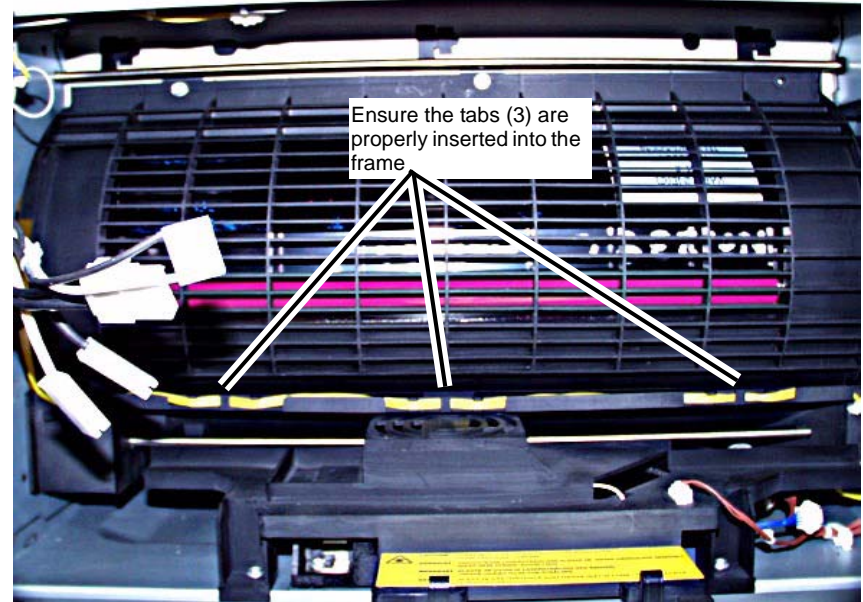

Figure 6 Inserting the Rotary Cover tabs
When installing the Rotary Cover, ensure that the three Rotary Cover tabs are properly inserted into the frame before installing the screws. An improperly installed Rotary Cover may cause a developer dump during machine operation. (Figure 6)
2. Install the Rotary Cover. (Figure 6)